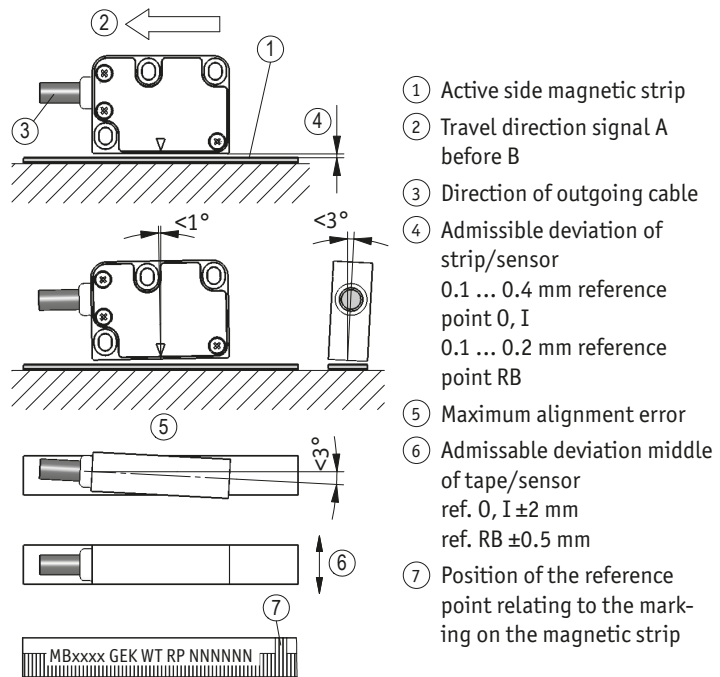

Fig. 6: Definition of the counting direction with magnetic strip and assemblage sensor / magnetic ring, gap measure, tolerances
► Take care that the magnetic sensor is aligned correctly in order to ensure optimum sensing (see Fig. 6).